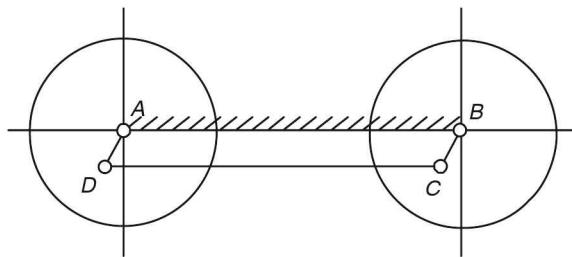

FIGURE 7.18 Mechanism of a coupling rod.
- (a) *The mechanism of the coupling rod of a locomotive:* In this inversion, the opposite links are equal, i.e. $AB = CD$ and $AD = BC$ (Figure 7.18). Equal velocity is imparted to wheels.